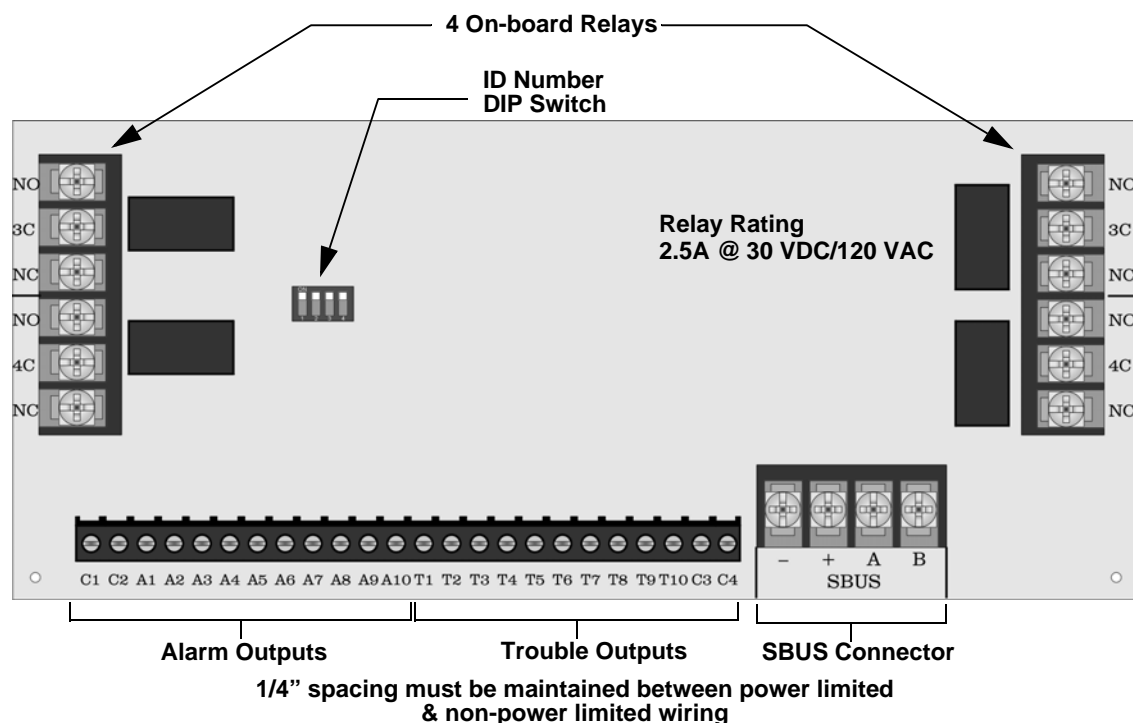

Figure 3-13 Model 5280 Board Layout
4. Set the ID number (see Figure 3-13 for ID DIP switch location). See also Section 3.14.1 for information on setting ID numbers.
5. Set the ID number (see Figure 3-13 for ID DIP switch location). See also Section 3.14.1 for information on setting ID numbers.